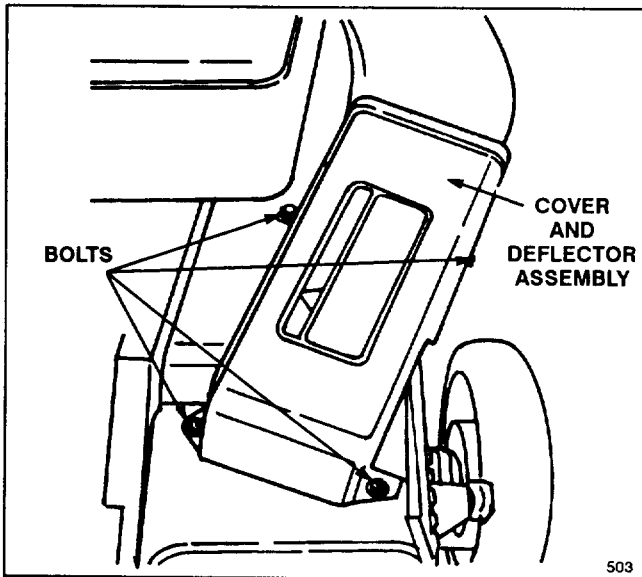

Figure 1
2. Remove and save the (4) bolts securing the Recycler® mower cover and deflector assembly to the deck (Fig. 1). Save the assembly for possible future reinstallation.